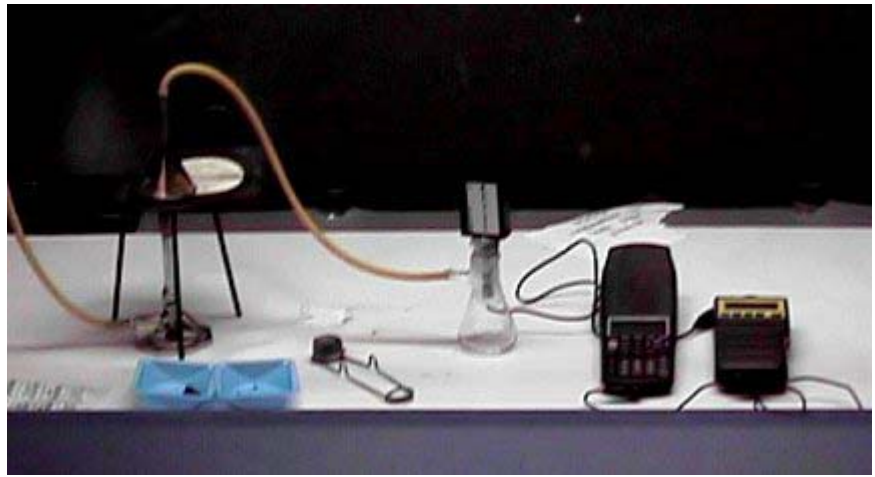

Figure 1
6. Attach the other end of the tubing to the arm of an Erlenmeyer flask.(See fig. 1)